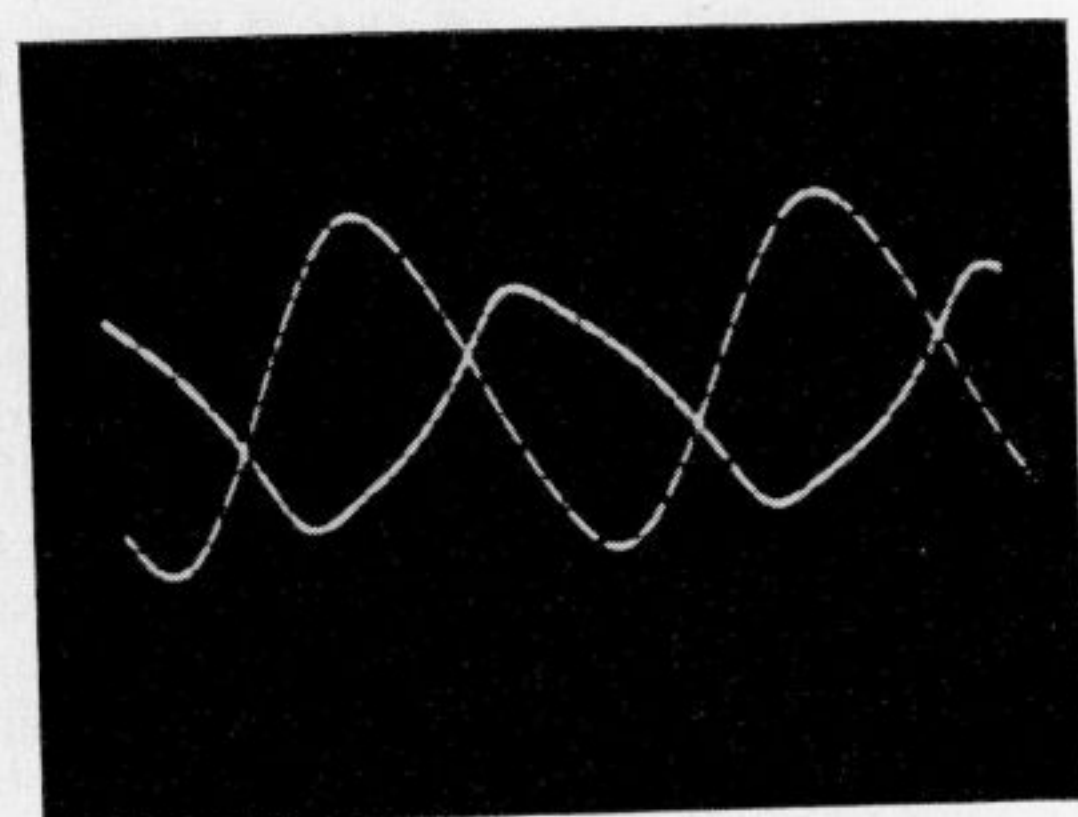

Figure 3. Direct comparison of the two signals is possible by superimposing them on the screen of the oscillograph
*Figure 3. A distributed amplifier of the type employed in the special wide-band cathode-ray oscillograph. Overall rise time of the amplifier is 0.004  $\mu$ sec with less than 2% overshoot. This amplifier provides a deflection factor of 0.1 p-p volt per inch with the Type 5XP-Cathode-ray Tube operated with 16,000-volt acceleration*